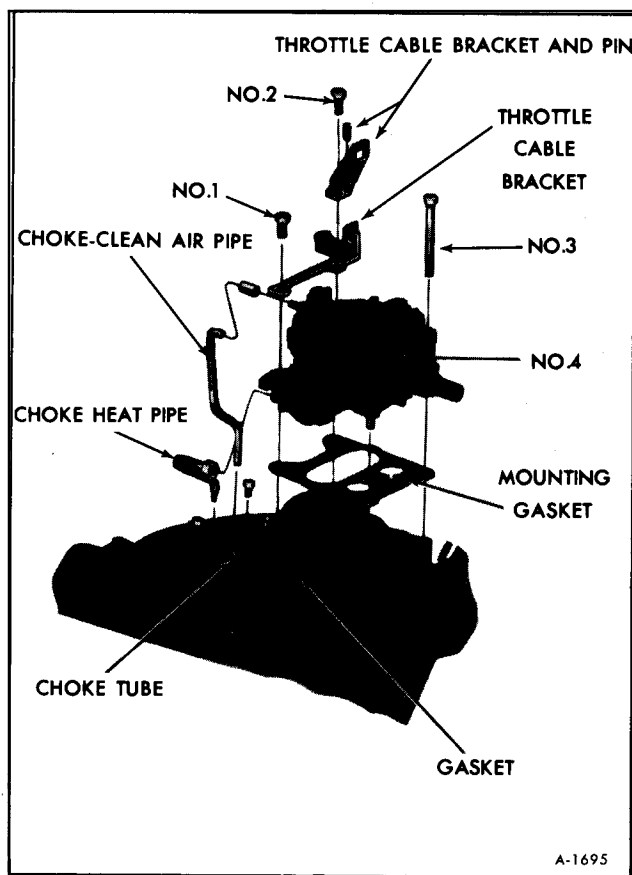

Figure 9—Carburetor Installation
2. Install carburetor. Torque attaching bolts diagonally to 48-96 in. lbs., then after all four are torqued, retorque diagonally to 12-17 ft. lbs. The sequence in Figure 9 is one, three, two, four.